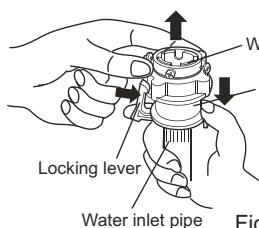
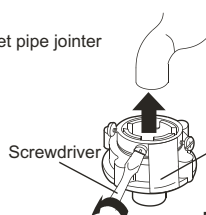
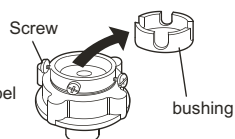

Figure 1
Figure 2
Figure 3
2. Put down the drain hose. Take off the drain hose frame. As indicated in Figure 1, put the drain hose into the cabinet. Then stretch one hand into the cabinet to nip the claw of the drain hose bushing to remove the claw from original position. Take off the drain hose bushing with the other hand. (As indicated in Figure 2 and 3).
1. Press the lower end of the lock lever and push down the slider. Take off the water inlet hose jointer from the water inlet hose component. See to Figure 1.
2. Loosen the screw till the water tap can be accessed. Put the jointer of the water inlet hose on the tap. See to Figure 2. (If the tap diameter is too large and the jointer can not be set on the water tap, please loosen the four screws and take out the bushing in the jointer. See to the figure3.)